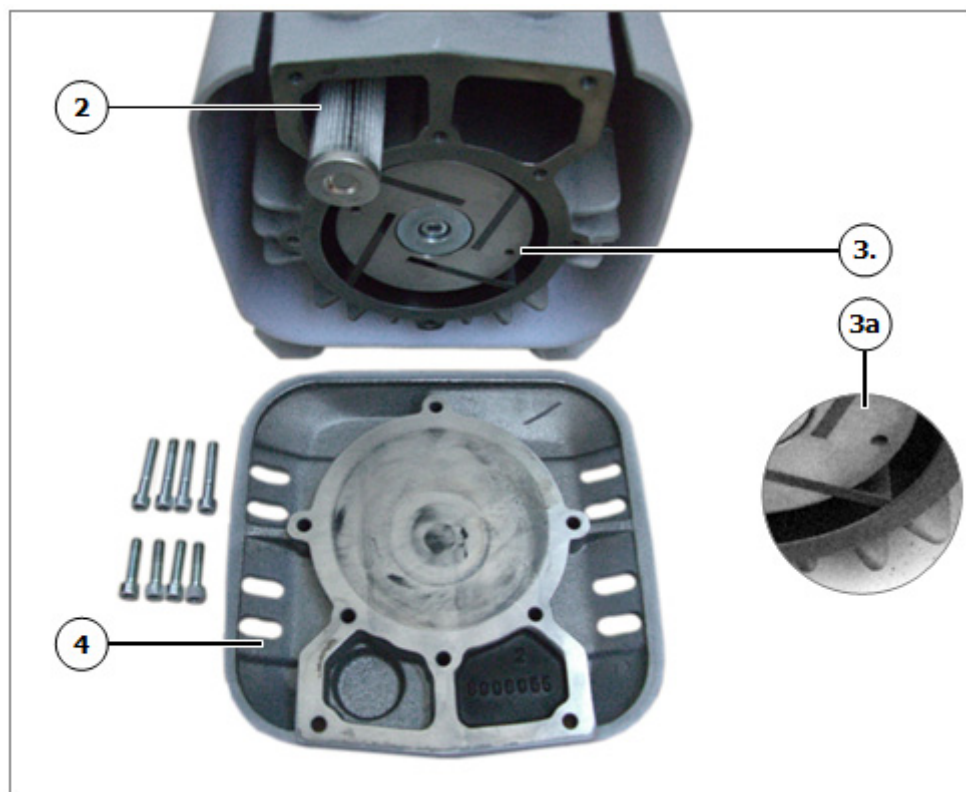
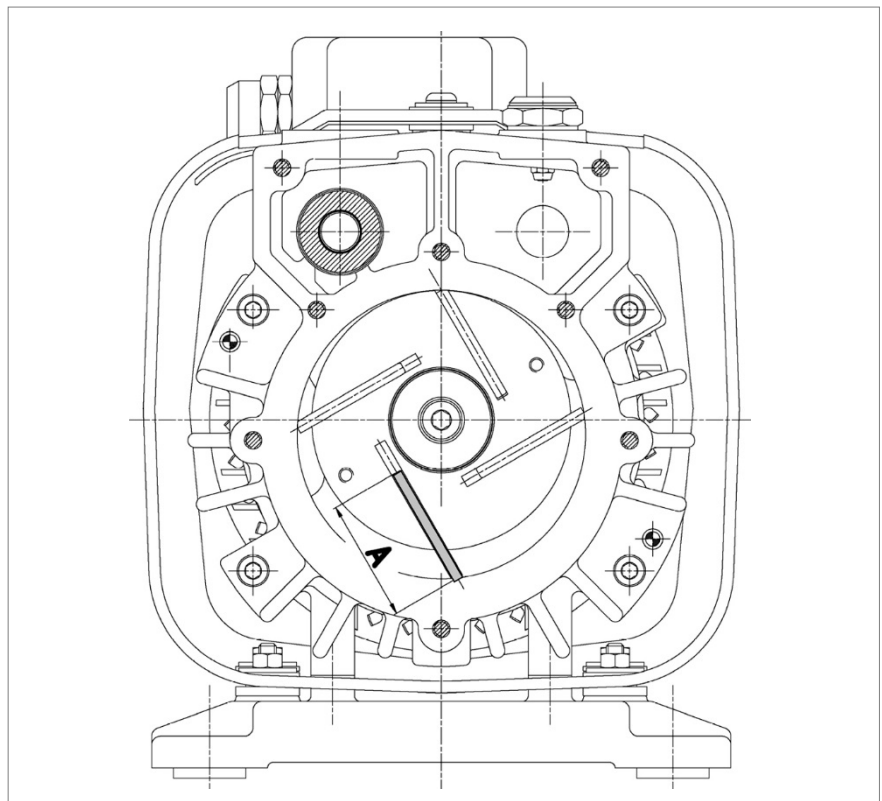

Fig. 8 Case opened
Fig. 9 Minimum blades A
- Remove the cartridge filter, Fig. 8 item 2,
- blades for inspection see, Fig. 8 item 3,
The slanting side of the blade must show to the outside and the slant in the rotation direction must coincide with the motion of the housing boring, see detail Fig. 8, item 3a and Fig. 9.